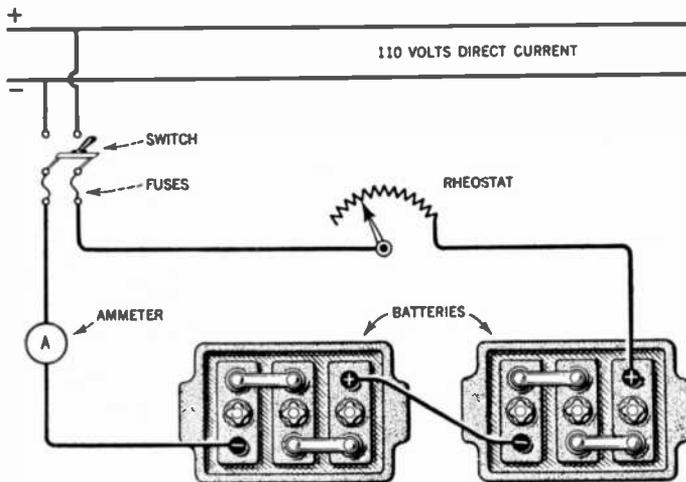

FIG. 82.—One method of charging "A" batteries. A variable rheostat is inserted in series in the 110-volt line to regulate the charging current.
*Answer.* Figure 82 shows two batteries connected in series for charge through a variable rheostat. Figure 83 shows two batteries connected for charge through five 16-cp. lamps used as current-limiting devices (resistances). Conventional symbols for the storage battery cells may be used instead of a sketch of the batteries.